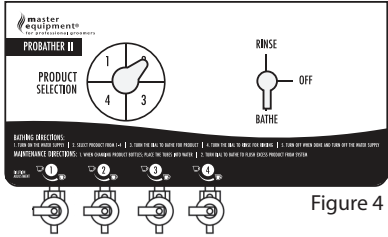

Figure 4
4. Turn the function knob to BATHE, as shown in Figure 4, and adjust the sprayer to the desired flow setting. Hold the sprayer to soak the coat of the pet with dilution and then close the sprayer.